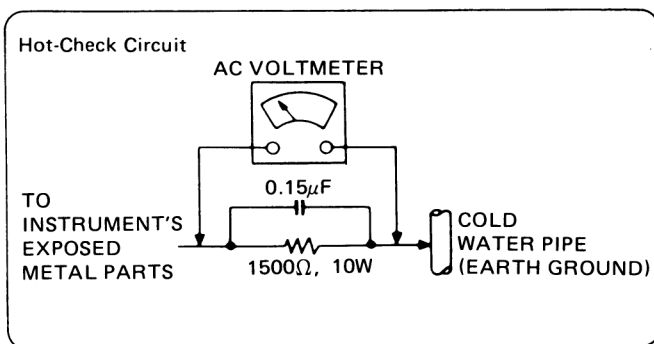

Figure 1
LEAKAGE CURRENT HOT CHECK (See figure 1.)
2. Connect a $1.5\text{ k}\Omega$, 10 watts resistor, in parallel with a $0.15\ \mu\text{F}$ capacitor, between each exposed metallic part on the set and a good earth ground such as a water pipe, as shown in figure 1.